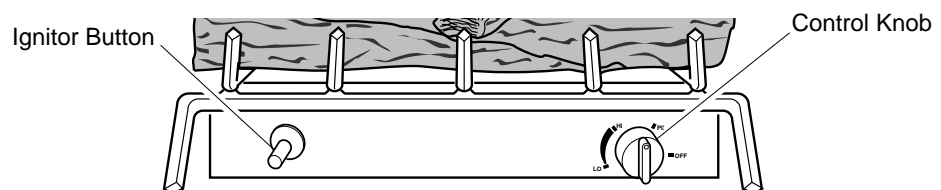

Figure 21 - Control Knob and Ignitor Button Location *Continued*
4. Wait five (5) minutes to clear out any gas. Then smell for gas, including near the floor. If you smell gas, STOP! Follow “B” in the safety information on page 21. If you don’t smell gas, go to the next step.
5. Slightly depress and turn control knob counterclockwise  to the PILOT position. Keep control knob pressed in for five (5) seconds (see Figure 21, page 22).